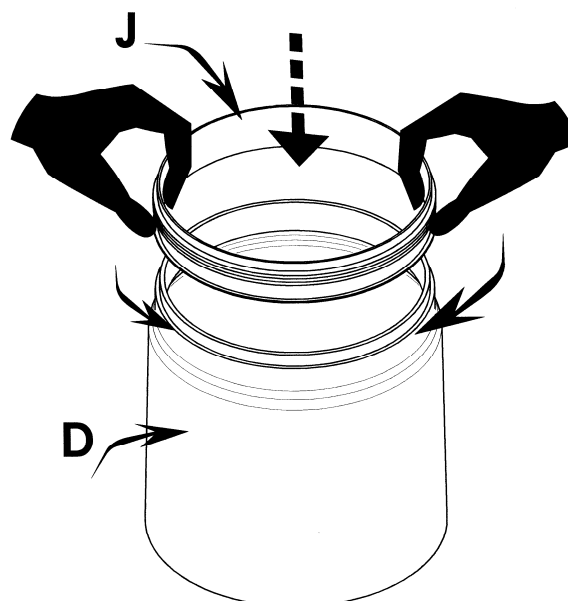

Figure 17
16°.-When you have finished, put all the parts back again. Once the tank (D) seal (J) is back in place, moisten it on the outside so that it slides more easily (Fig.17).